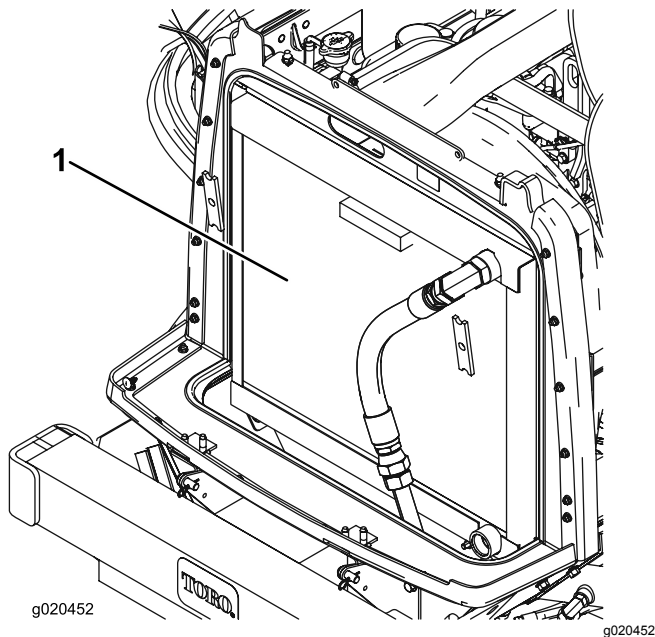

Figure 72
3. Clean both sides of the radiator/oil cooler area thoroughly with compressed air (Figure 72).